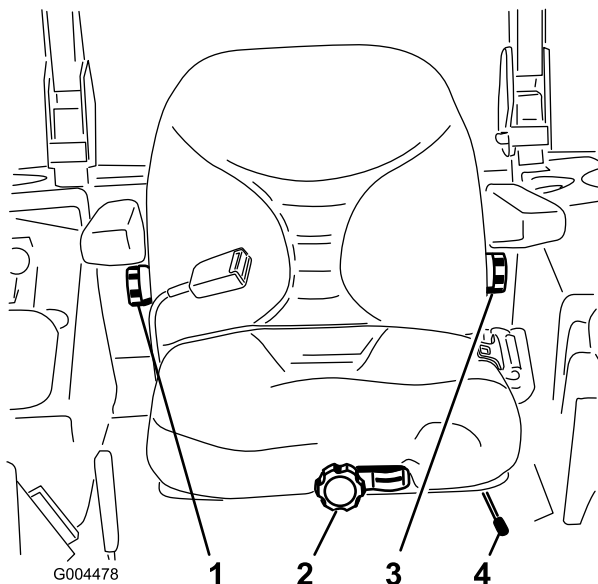

Figure 14
1. To adjust, move the lever sideways to unlock the seat (Figure 14).
Without sitting on the seat, turn the knob in front either direction to provide the best comfort (Figure 14).
To adjust it, turn the knob, under the right-side arm rest, in either direction to provide the best comfort (Figure 14).
To adjust it, turn the knob, under the left-side arm rest, in either direction to provide the best comfort (Figure 14).